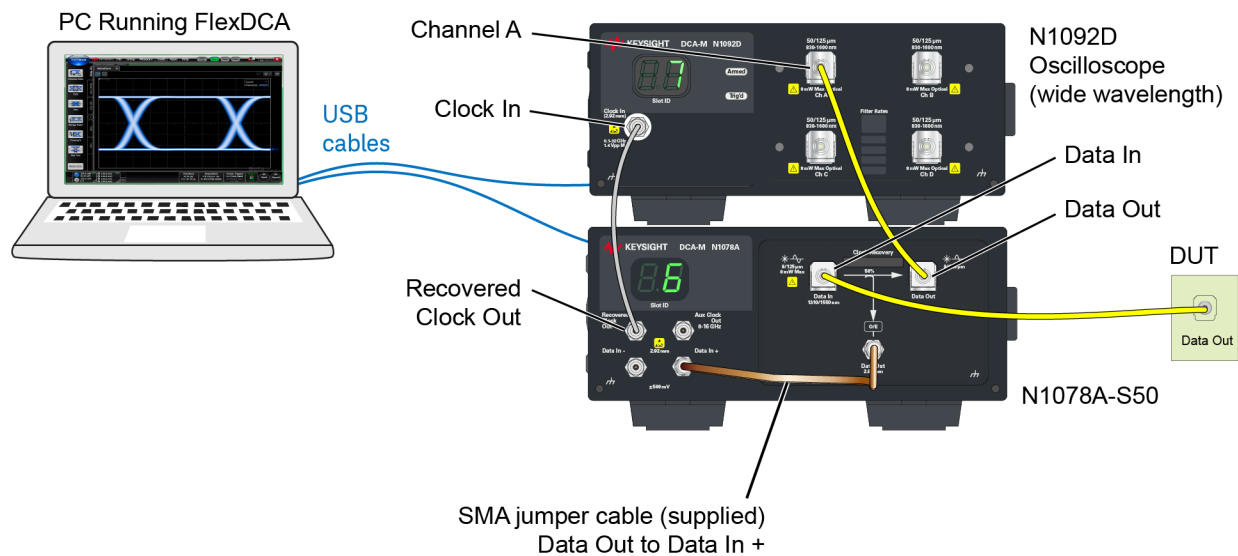

Figure 59. Typical Connection Setup
3. Connect the N1078A as shown in *Figure 59 on page 111*. If connecting to an N1000A (or 86100D), be sure to connect the USB cable to the DCA-X's rear-panel USB port. Notice that the N1078A has single-mode optical connectors: